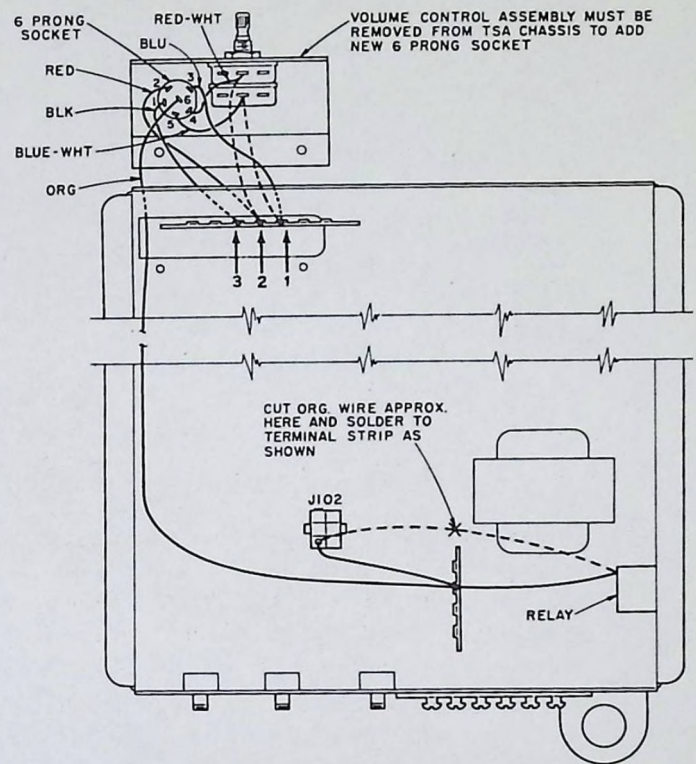

Figure 1. Wiring
2. Connect blue-white wire from Prong 5 of 6-prong socket to volume control as shown in Figure 1.
3. Connect red-white wire from Prong 4 of 6-prong socket to volume control as shown in Figure 1.
minal strip as shown in Figure 1.